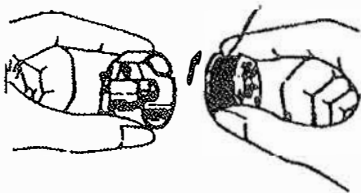

Fig. 8.
1. Hold bobbin case so that thread unwinds in the direction shown in Fig. 8, and put bobbin in bobbin case.